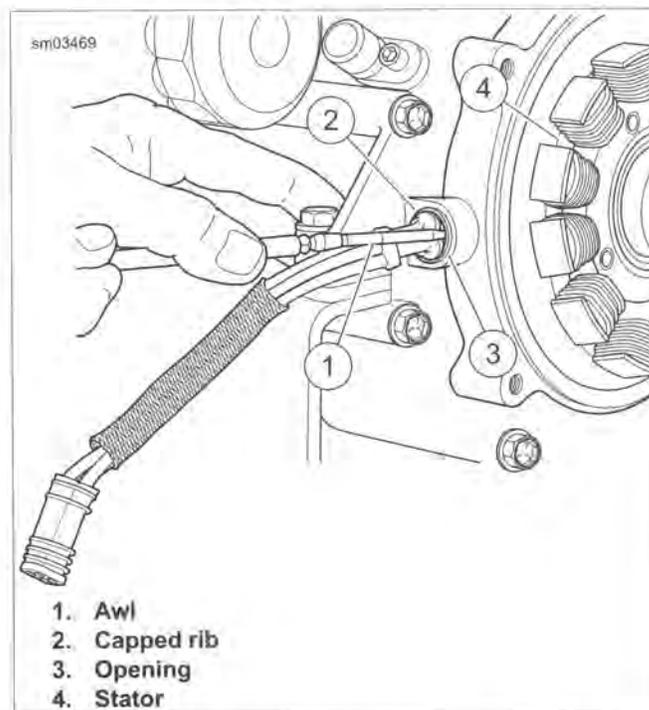

Figure 7-67. Remove Grommet From Crankcase
8. See Figure 7-67. Using point of awl or small screwdriver, carefully move grommet away from crankcase and squirt isopropyl alcohol or glass cleaner into opening. Repeat this step at one or two other locations around grommet.